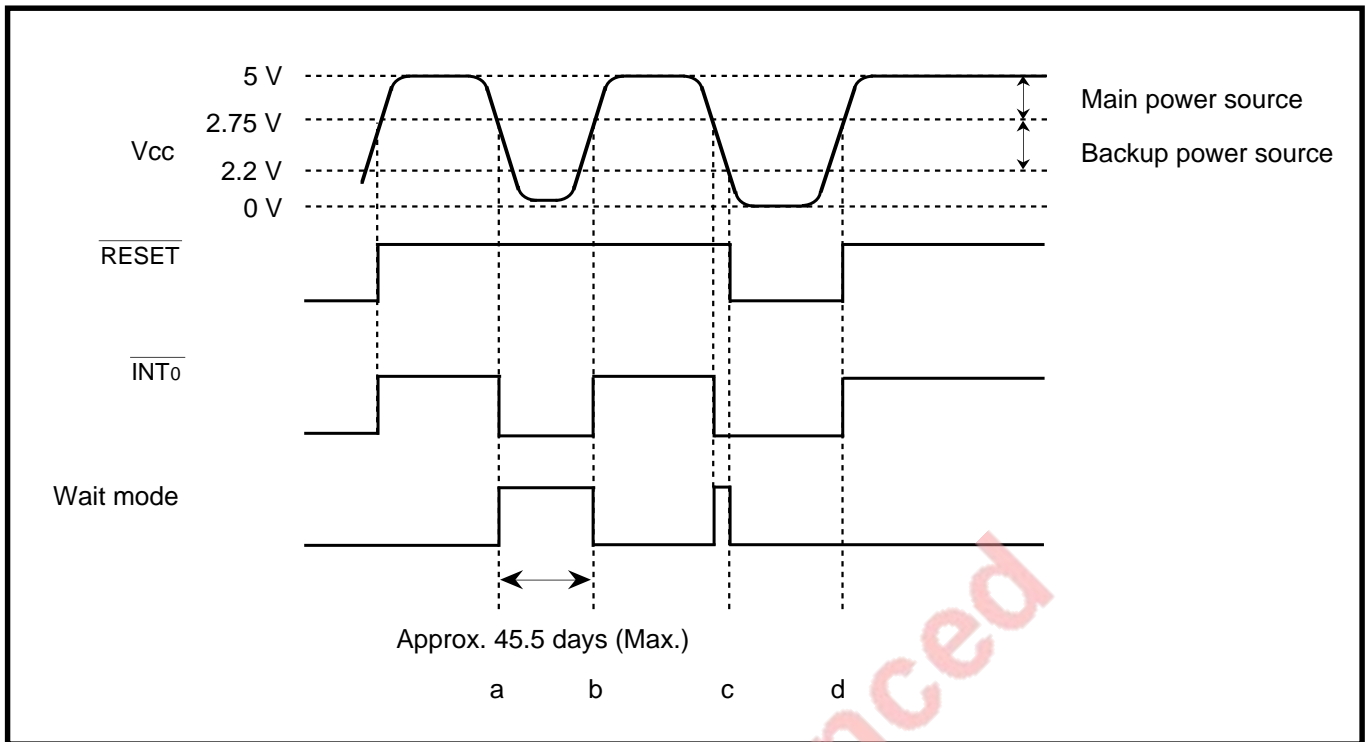

Fig. 17.5.2 Timing chart
- ① Main power source = 5 V to 2.75 V. Backup power source = 2.75 V to 2.2 V
- ② Timer B2 uses the sub clock (32.768 kHz) divided by 32 as the count source and counts the time up to 1 minute.
- ③ Timer B2 counts the power-source-off time up to the maximum of approximate 45 days, checking the timer B2's overflow signal.
- ④ The clock counter is counted up each time timer B2 interrupt occurs, in other words, every 1 minute.
- ⑤ When  $V_{cc}$  is less than 2.75 V, in other words, when the main power source is off, the  $\overline{INT0}$  input's level changes from "H" to "L" and the microcomputer enters the wait mode at this falling edge. (Refer to "a" in Figure 17.5.2.)
- ⑥ In the wait mode ( $V_{cc} = 2.2$  V or more), only timers B2 and B1 do counting. (In this case, note that clock display is disabled and the timer B2 and B1 interrupts are disabled.)
- ⑦ When  $V_{cc} = 2.75$  V or more in the wait mode, in other words, when the main power source is on, the  $\overline{INT0}$  input's level changes from "L" to "H" and the wait mode is terminated at the  $\overline{INT0}$  input's rise. (Refer to "b" in Figure 17.5.2.) At this time, the following is done according to the timer B1's state.
- ⑧ When  $V_{cc} = 2.2$  V or less, the microcomputer enters the reset state owing to the power source detection circuit. (Refer to "c" in Figure 17.5.2.) And then, when  $V_{cc} = 2.75$  V or more, the microcomputer is released from reset state. (Refer to "d" in Figure 17.5.2.)